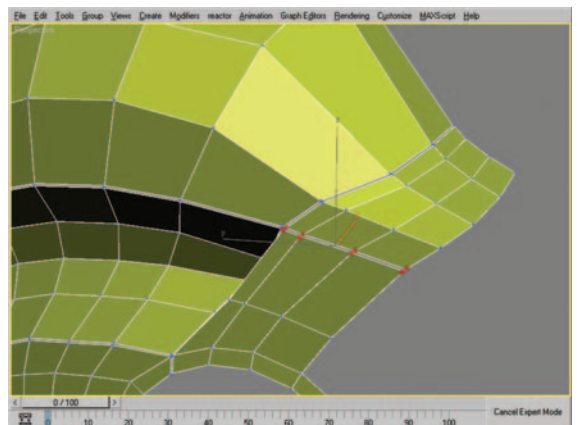
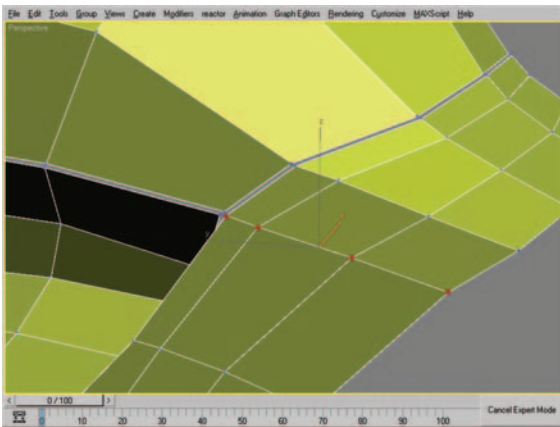

Figure 8.38 Vertex selection. A total of eight vertices are selected.
Figure 8.39 Vertex selection after using Weld. The vertex count is now four, and the surface is continuous.
41. At the Vertex subobject level, select the eight vertices seen in Figure 8.38 and, using Weld, weld them into four verts (you may need to increase the weld threshold). This step has made a continuous surface out of the two sections we started with (Figure 8.39).